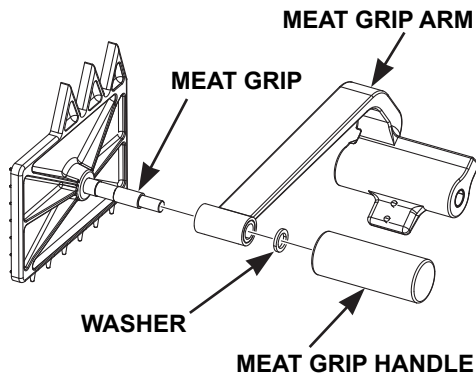

Fig. 26
- Assemble the Meat Grip Assembly (Fig. 26) by placing the Washer, Meat Grip Arm, and Meat Grip Handle on the shaft of the Meat Grip.